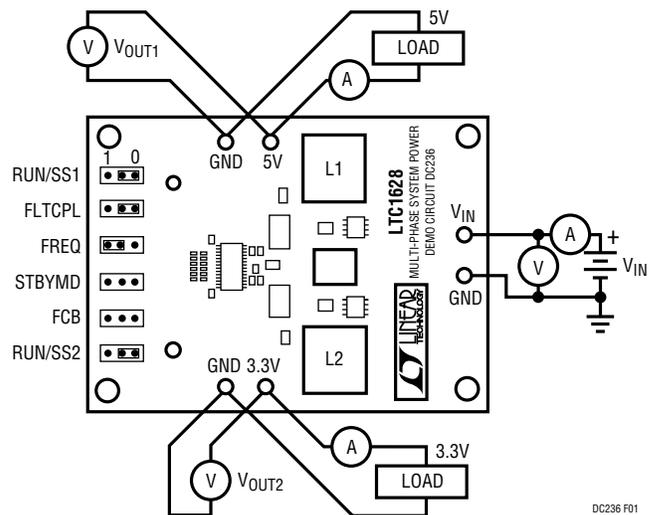
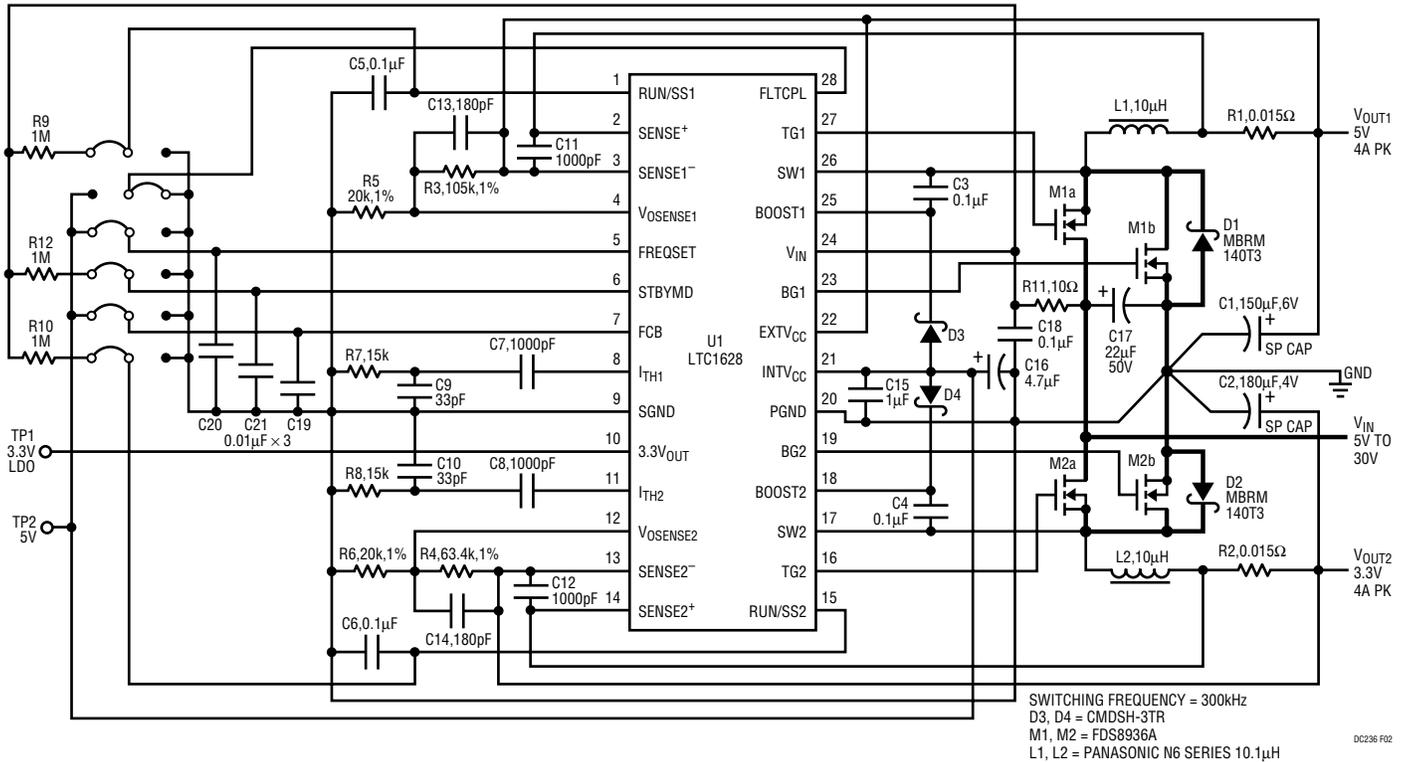

Figure 1. Proper Measurement Setup
Figure 2. LTC1628 Fixed 5V/4A, 3.3V/4A, High Efficiency Dual Regulator
1. Refer to Figure 1 for board orientation and proper measurement equipment setup.
The circuit shown in Figure 2 provides fixed voltages of 5V and 3.3V at currents of up to 4A. Figure 1 illustrates the correct measurement setup in order to verify the typical numbers found in the Performance Summary table. Small spring clip leads are very convenient for small-signal bench testing but should not be used at the current and impedance levels associated with this switching regulator. Soldered wire connections are required to properly ascertain the performance of this demonstration PC board. Do not tie the grounds together off the test board.